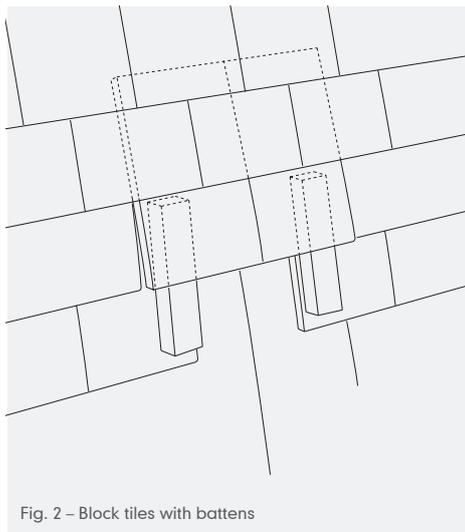

Fig. 2 – Block tiles with battens
- 1 Remove damaged tile by raising up the tiles with a timber wedge or trowel and sliding out the tile with the nibs clearing the top of the batten. Any nails should be removed and disposed of safely (Fig. 2).